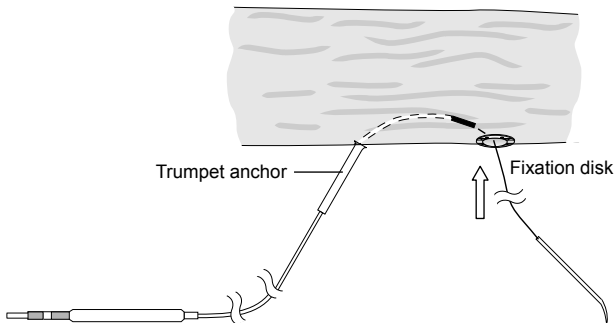

Figure 4. Slide fixation disk to serosal surface.
2. Slide the fixation disk down the blue polypropylene monofilament until it is directly on the serosal surface (Figure 4).